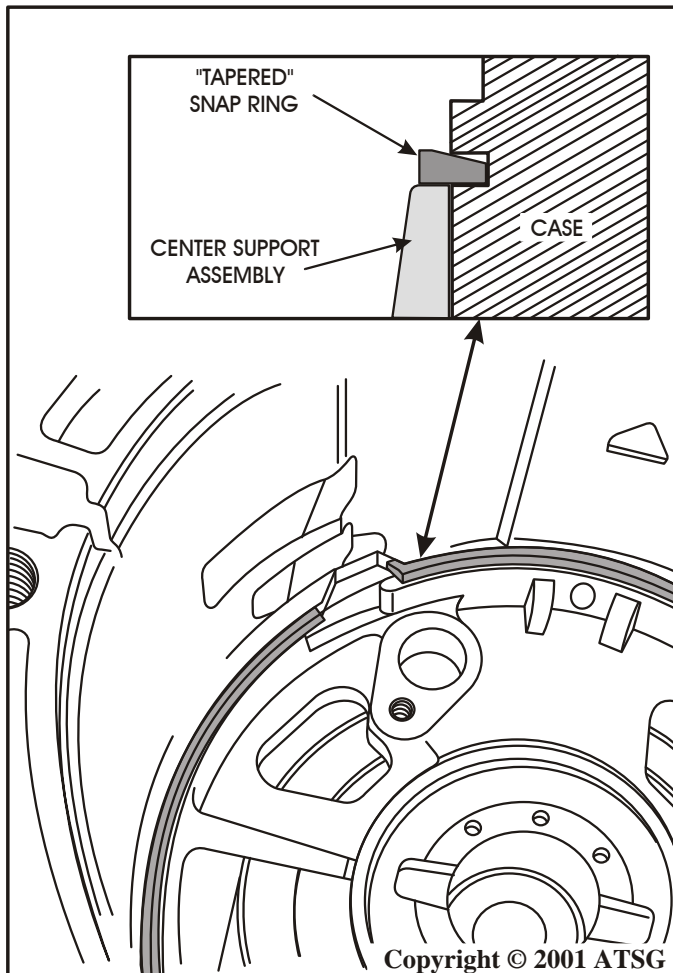

Figure 158
41. Install the center support snap ring with the opening in the snap ring to the opening in the center support, as shown in Figure 158.